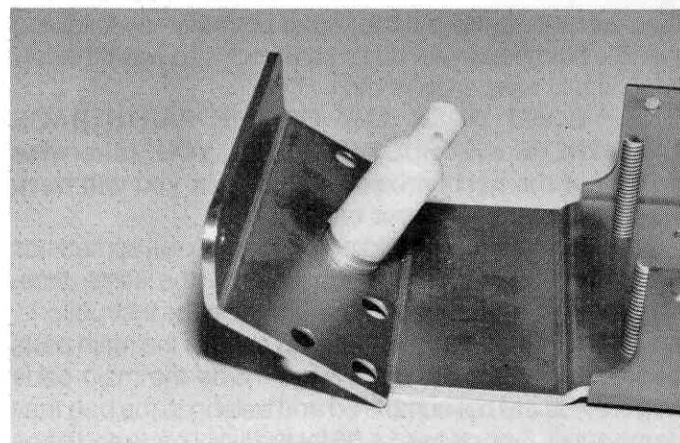

Fig. 4
□ **Fig. 4** Install body mount as shown with body clip hole going left to right.